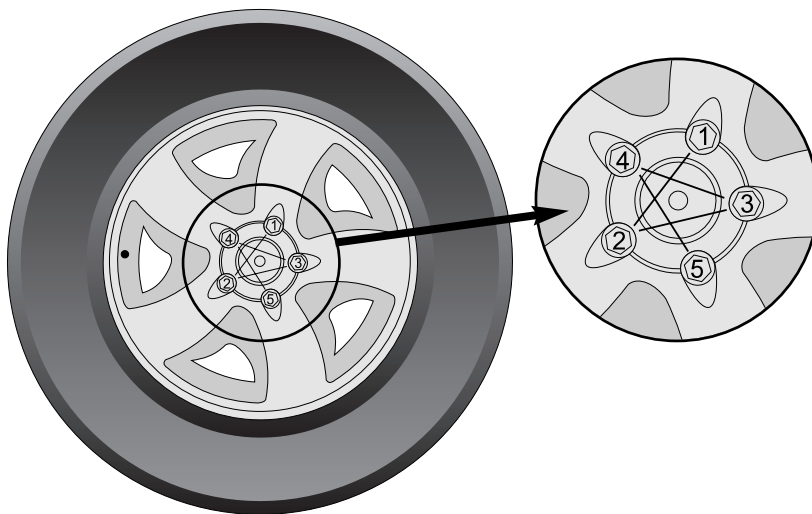

FIGURE 3-6
13. Before use and after the first 100 miles, torque the lugnuts to 90-95 foot lbs. Lug nuts must be tightened in a star criss-cross pattern (Figure 3-6) to ensure uniform pressure and alignment. Apply torque evenly by repeating star pattern until desired torque is reached.